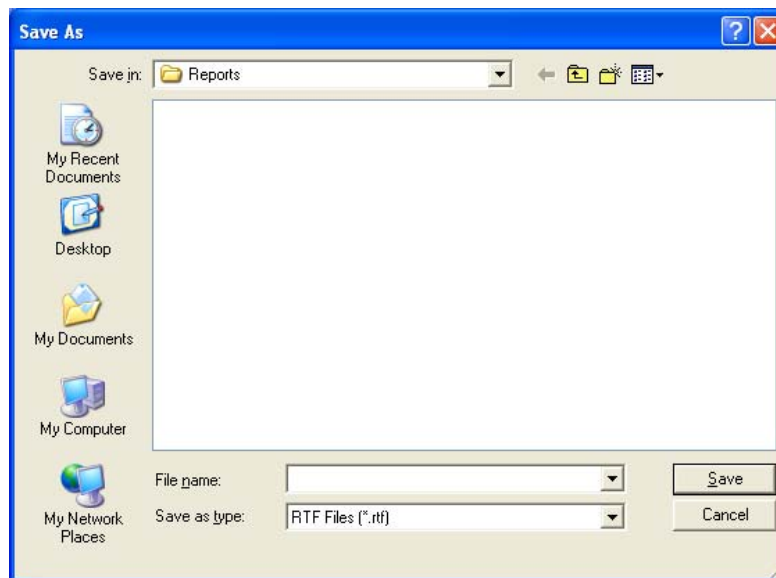

Figure 14-8
5. To save the report on your screen to another file, click the **Save to File** button or press *Alt+S*. The Save As screen appears as shown in Figure 14-8.